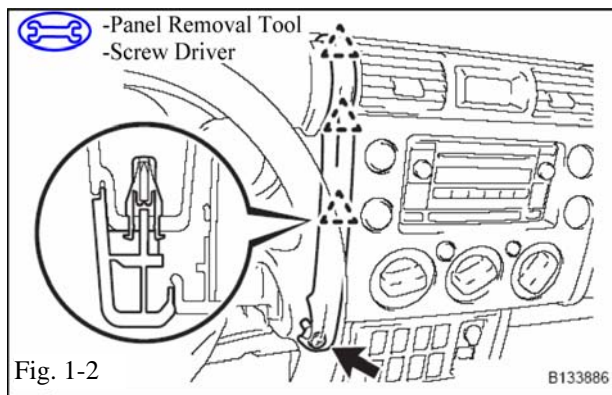

Fig. 1-2
(1) Remove the screw.
(2) Disengage the three (3) clips and remove the instrument panel garnish. (Fig. 1-2)